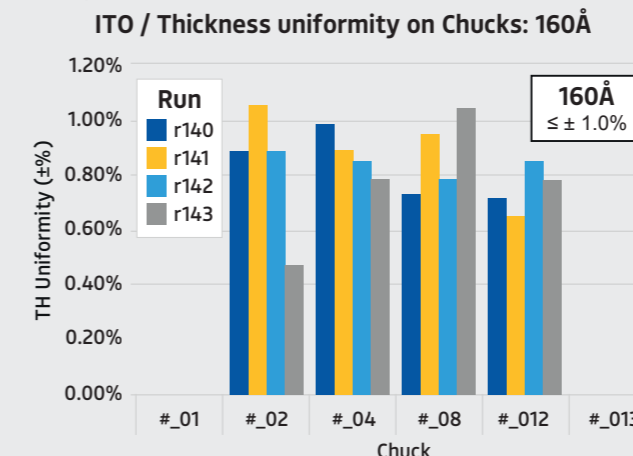

Figure 4a: Thickness uniformity for a thin film
sputter module with the optimized sputter source and process kits discussed above. The VHC has the capability for temperatures to 800°C. Figure 4a shows wafer temperature measured by thermal couple varying chuck temperatures. With chuck temperature heated up to 800°C, the wafer temperature reaches 700°C offering us a much wider range of temperature for deposition. Preliminary results already show the benefit of high temperature deposition. For example, for deposition of AlN on a Si wafer (Figure 4b), we see decreasing RC FWHM with increasing chuck temperature. Similarly, for bottom electrode (BE) layer deposition, the specific resistivity decreases with increasing chuck temperature (Figure 4c). And in the specific example shown here, we could show that resistivity of this type of electrode improved by more than 20% when we increased the chuck temperature from 350°C to 800°C.